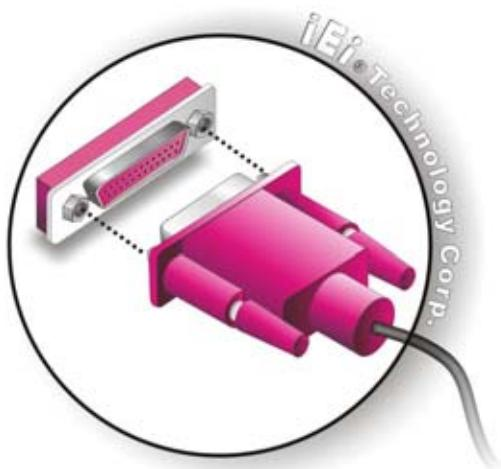

Figure 5-11: Connect the LPT Device
Step 5: Connect LPT device. Once the LPT interface connector is connected to the chassis, the LPT device can be connected to the LPT interface connector. See **Figure 5-11**